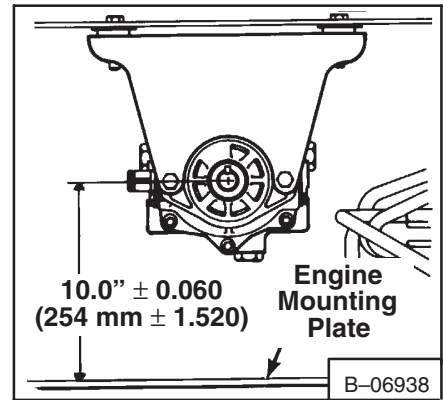

Fig. 3-152 Pump Alignment
6. If the height alignment is not correct, add or subtract half thickness washers at the rear pump mount. Correct height specifications for pump drive is shown in figure 3-152.